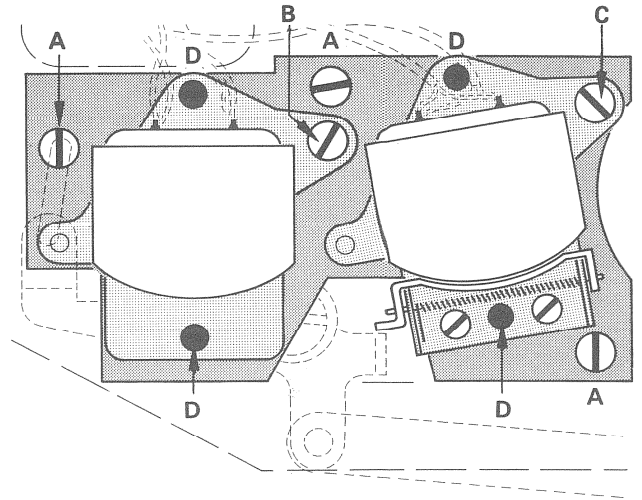

Fig. 6.5-67
- Adjust for maximum signal with screw B (fig. 6.5-67), (turn slowly - indication delay !).
- Set output voltage to a maximum (sharp) with screw B (fig. 6.5-67) turn slowly - indication delay !).